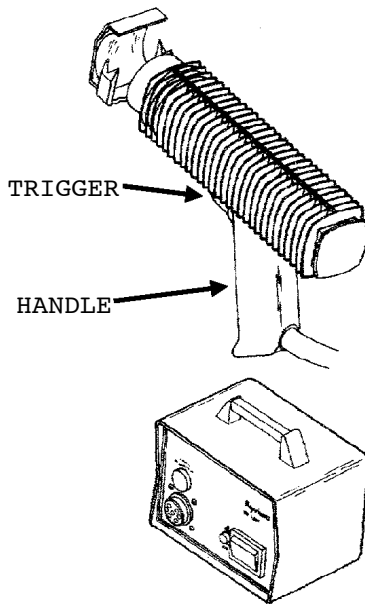

Figure 9. Infrared Heating Tool, IR-1759
29. MiniRay infrared heating tool, IR-1759 (Figure 9), is a small, lightweight, medium-duty hand heating tool designed for quiet, efficient operation. It can significantly reduce installation time on a variety of heat-shrinkable products. It is not to be used to heat shrink/recover dark colored heatshrink sleeve of any kind, as it will tend to quickly overheat and damage it. It is however, very useful for solder sleeves and environmental splices. The low profile allows product installation where work space is restricted. Specifications are listed in Table 2. The IR-1759 is available in two power configurations, one with an internal chargeable battery (XXX) and requiring external power (110VAC / 230 VAC). The controller box houses the battery (i.e. YYYY). This type may be employed for 30 typical applications.
30. **PRE-OPERATION.** Prior to using infrared heating tool (Figure 9), proceed as follows:
34. **OPERATION.** To operate infrared heating tool (Figure 9), proceed as follows: